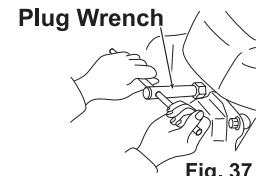
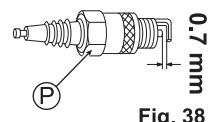

Fig. 37
Fig. 38
2. Remove the spark plug (P) with the attached plug wrench. (See Fig. 37)
3. Exchange the spark plug (P) if a great amount of carbon is adhered to it or its insulator is cracked or damaged.
4. Remove the carbon adhered to the electrode, and adjust the electrode clearance to 0.7 mm. (See Fig. 38)
5. Install the spark plug (P) and the spark plug cap (Q).